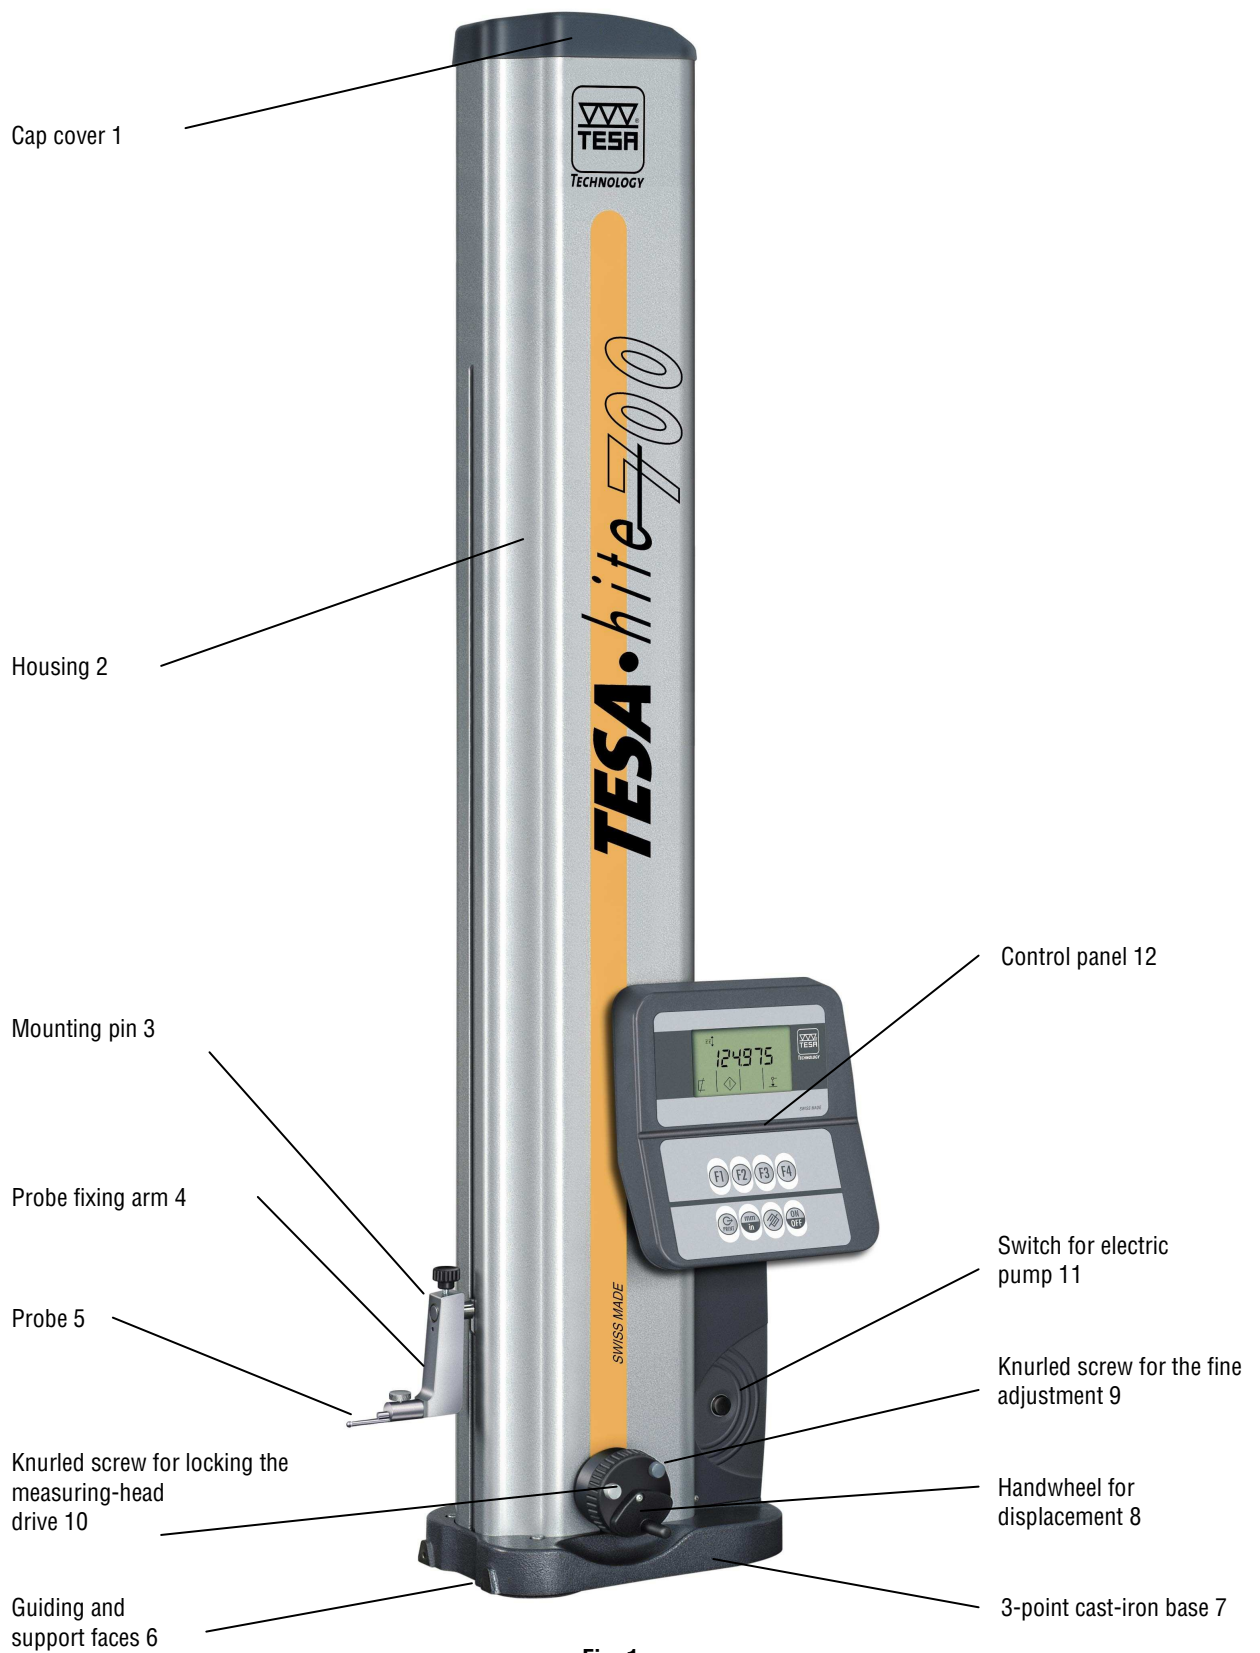

Fig. 1
Before fitting the standard accessories, release the measuring carriage by unscrewing the light grey knurled screw (10) Fig. 1 on the hand wheel.
The base is chemically nickel-plated in order to make it very resistant to corrosion. Its lower face, which has been machined to ensure that it is rigorously flat, incorporates three finely-machined support lugs that guarantee the stability of the TESA-Hite 400 / 700. These lugs form a large surface so that any grooves or other similar irregularities in the surface plate can be comfortably cleared. The lugs 6 (Fig. 1) are designed especially for supporting the TESA-Hite 400 / 700 against a parallel rule or for guiding it along such a rule, for example.
The air-cushion base, which is generated by the pneumatic system linked to the electric pump integrated into the instrument, permits the height gauge to be moved safely and easily. Once activated, manually with the button 11 (Fig. 1), the pump creates an air-cushion only a few  $\mu\text{m}$  thick between the height gauge base and the surface plate so that TESA-Hite 400 / 700 can be displaced effortlessly and quite wear-free. The thickness of the air cushion can be set according to the surface quality of the granite plate. This is done by turning screw (Fig. 3), which acts on the valve located into the pneumatic system. Experience has shown that the air cushion should not be thicker than necessary. Once enabled, it has to support the weight of the height gauge while contacting the surface plate lightly.
The rigid vertical column is perpendicular to the base, to which it is permanently fixed. A measuring head slides on the guide and the movement of the head is recorded by an opto-electronic measuring system (TESA patent). The measuring head can be moved in infinitesimal increments by the fine-adjustment system, for example when using fine probes or measuring small bores. The knurled screw 9 (Fig. 1) is used to lock the measuring-head movement that is thus left free for scanning. However, if necessary, the head itself can also be locked by using the built-in system. To do it, block the handwheel by using the screw 8 (Fig. 1) and move the probe upwards to the stop.